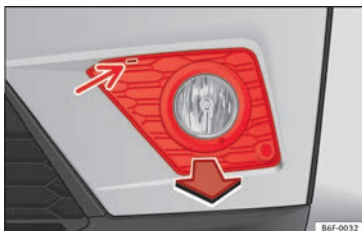

Fig. 113 Fog light: extracting the grille
1. Lever the groove with a screwdriver » Fig. 113 (arrow). Next, unclip the clips located on the edge of the grille, pulling on it.